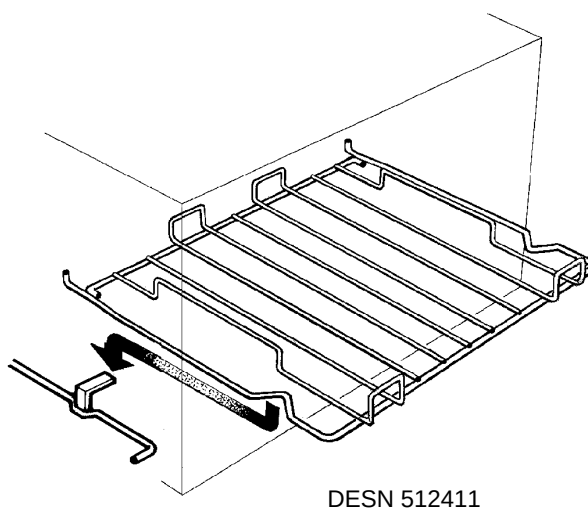

Fig. 11B
- The grill pan fits on the shelf supplied. The shelf is designed to lock in place, but is removable for cleaning. (See Fig. 11B).
- Do not place dishes directly on to the oven base. Always place onto shelf supplied (See Fig. 11B).